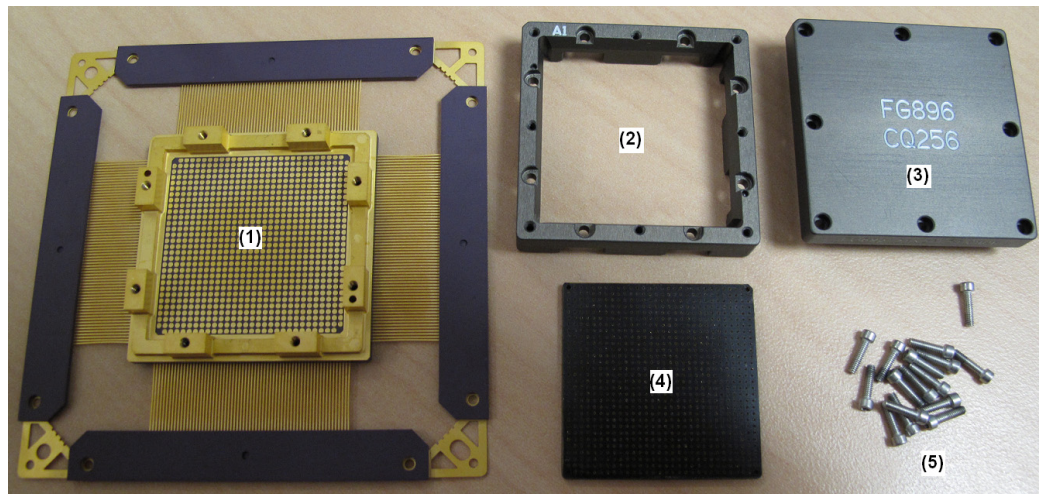

Figure 2 • Parts of CQ256 to FG896 Adapter Socket; (1) Ceramic Adapter, (2) Socket Housing, (3) Socket Lid, (4) Socket Interposer, (5) Fixing Screws
Figure 2 shows the CQ352 to FG484 complete assembly kit. SK-AX250-CQ352RTF484S contains a socket lid (3), interposer (4), and sixteen screws (5).